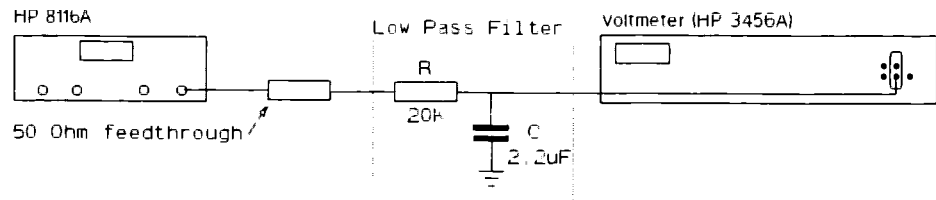

Figure 9-2. Low Pass Filter
- Low pass filter (Refer to Figure 9-2)
11. Connect the HP 8116A's main output to the DVM, enable the DVM's built-in filter and set the DVM to read DC voltages. If the DVM does not have a built-in filter, use an external low pass filter, as shown in Figure 9-2.
28. Connect the HP 8116A's main output via a 50Ω feedthrough terminator to the DVM, and enable the DVM's built-in filter. If the DVM does not have a built in filter, use a low-pass filter as shown in Figure 9-2.
43. Connect the HP 8116A's main output via a 50 Ω feedthrough terminator to the DVM, and enable the DVM's built-in filter. If the DVM does not have a built-in filter, use a low-pass filter as shown in Figure 9-2.